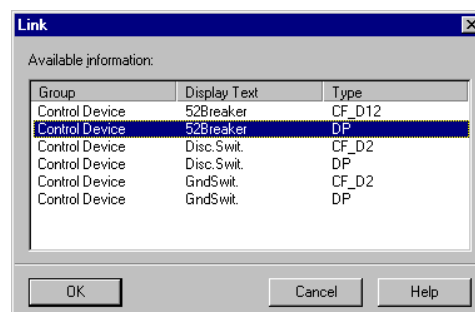

Figure 5-46 DIGSI® 4, Selection Window for Switching Equipment (example)
- The information corresponding to the equipment and configured previously in the configuration matrix can now be selected in a **Link** dialog window (see Figure 5-46), from which the user may click on the desired option and confirm with **OK**. In this manner, the user may link the graphical diagram with configuration settings.